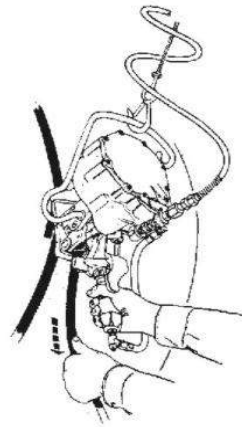

图3 (Fig3)
2.打开气源开关,按图3所示,移动捆扎机,使其接近被捆扎物体上方,将上层钢带置于送进压轮下,并将捆扎机向前推动,使锁紧扣与锁扣机构位置对正,此时捆扎机准备工作完毕。
Switch on the air source, move the tool (Fig.3) to the top of the package. Insert the TOP STRAP under the feedwheel, Push the tool forward until the front of the seal stop contacts the end of the seal. The Preparation is ended.